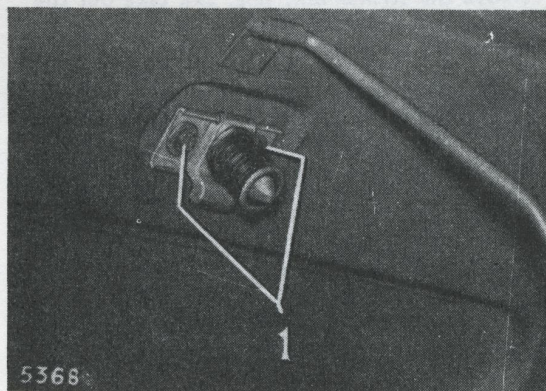

Fig. 29. Bonnet lock striker (Alpine)
To remove the striker unit (Fig. 29), take out the two setscrews (1) with their flat and spring washers.